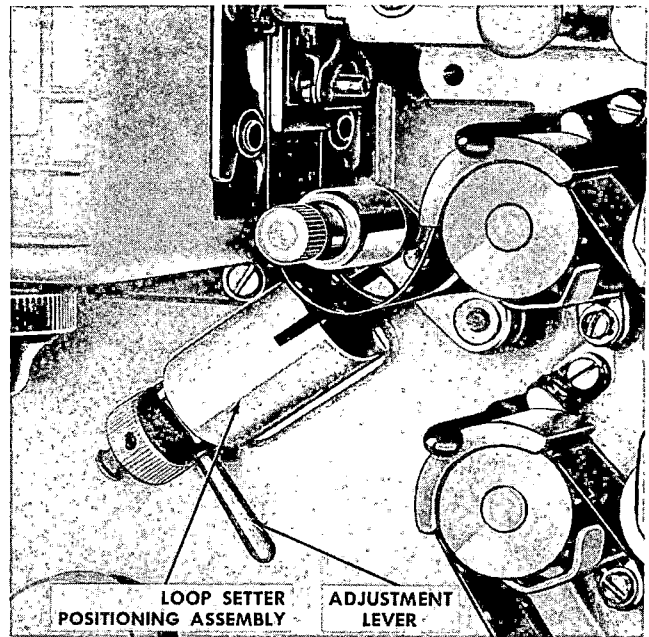

Figure 17. Film Slack Lever Adjustment
67. LOOPSETTER ADJUSTING ASSEMBLY ADJUSTMENT. (See figure 17.)
b. Insert a screwdriver between retaining collar and its truss head screw and apply pressure against head of screw. Loosen set screw while holding the screwdriver in this position. Ease up on the pressure of the screwdriver so that the adjusting rod (48, Parts Catalog figure 17) moves upward approximately  $3/64$ -inch; then tighten the set screw securely.